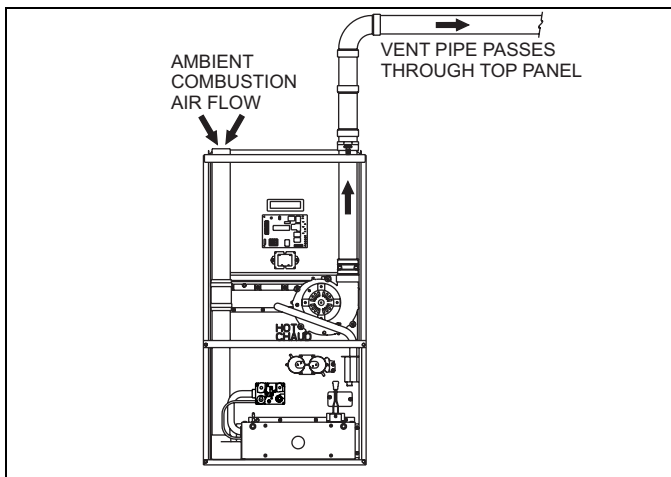

FIGURE 22: Combustion Airflow Path Through The Furnace Casing to the Burner Box (Modular Home Installations Only)
2. **AMBIENT COMBUSTION AIR (Modular Home Installations Only):** Combustion air is supplied from the area surrounding the furnace through the combustion air pipe in the furnace casing. The combustion air and the vent pipes are not terminated in the same atmospheric zone. Refer to Figures 22 & 23. Refer to "AIR SOURCE FROM INSIDE THE BUILDING" and "VENT AND SUPPLY AIR SAFETY CHECK" for proper installation.
This type installation will draw the air required for combustion from within the space surrounding the appliance and from areas or rooms adjacent to the space surrounding the appliance. This may be from within the space in a non-confined location or it may be brought into the furnace area from outdoors through permanent openings or ducts. It is not piped directly into the burner box. A single, properly sized pipe from the furnace vent connector to the outdoors must be provided. For down-flow models combustion air is brought into the furnace through the unit top panel opening. Do not install a pipe into the combustion air pipe at the top of the furnace. Refer to Figure 22.